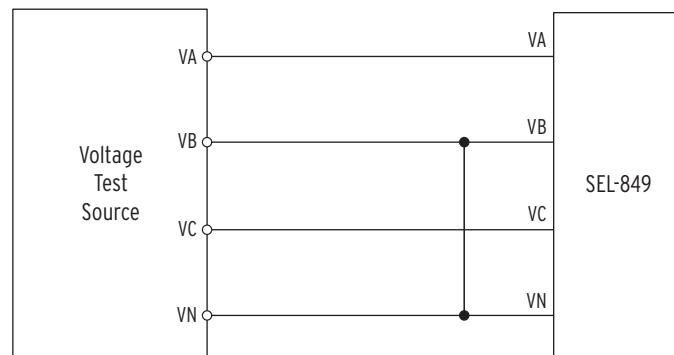

Figure 10.5 Delta Voltage Source Connections
- Step 2. Connect the voltage source to the relay, as shown in *Figure 10.5*. Make sure that DELTA_Y := DELTA.